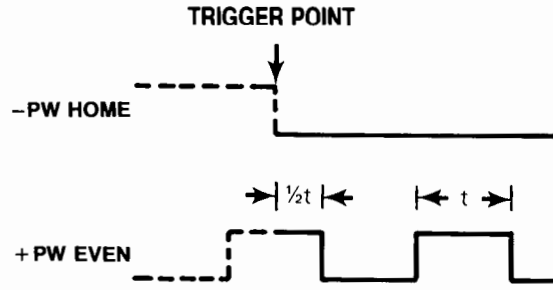

Figure 11. Print Wheel Home Adjustment Waveforms
- g. Rotate the home position sensor such that the negative edge of -PW HOME is centered at the midpoint of the positive portion of +PW EVEN as shown in figure 11.